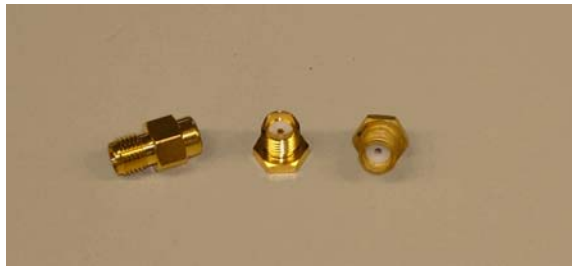

Figure 10. SMA female calibration standards (50 Ω load, Short, Open)
5. Before every calibration, which is every time the network analyzer is turned on, steps 1 through 4 must be done. There are many ways to calibrate a network analyzer, the approach used in this lab will be to have three standards, a 50 Ω load, Short and Open as shown in Fig. 10.